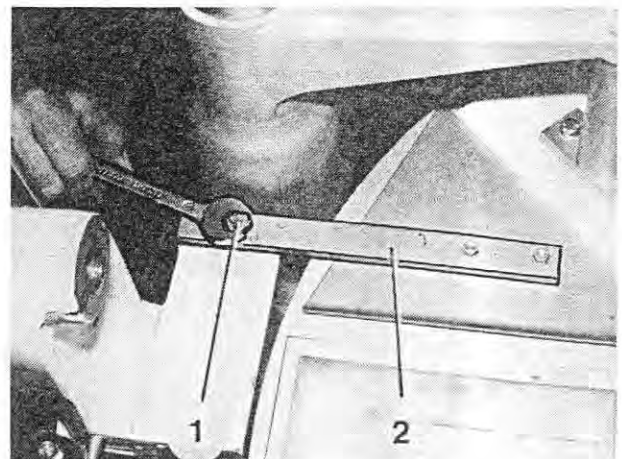

Fig. 149
14. Unscrew the locking screw (Figure 149/1) of the folding edge presser (Figure 149/2). Remove the folding edge presser.